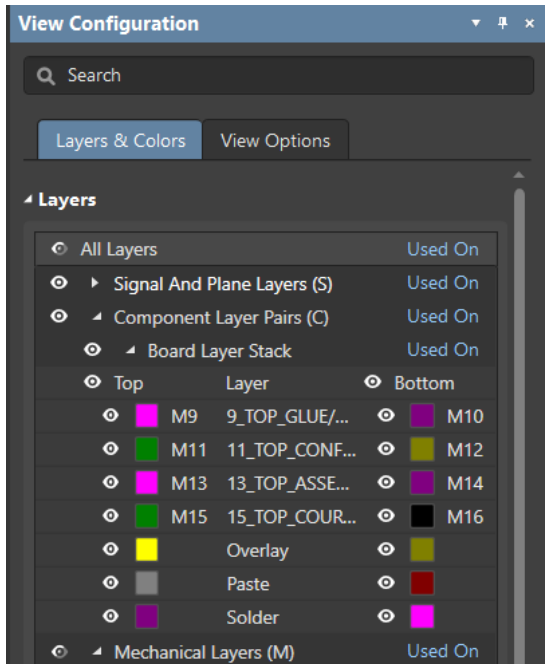

Figure 6. Component Layer Pairs. Paired Mechanical Layers showing Top (left column) and Bottom (right column) associated pairs
- c) Paired Mechanical layers will not display in the *Mechanical Layers* section but will be listed in the *Component Layer Pairs* section. Mechanical layers 9 thru 16 have been paired as shown in below in Figure 6.